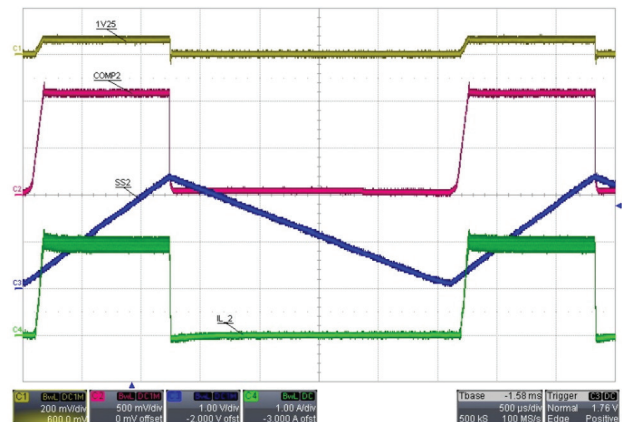

Figure 9: Synchronous Buck Hiccup Mode Operation when 1V25 is Shorted to GND and $C_{SS2} = 10 \text{ nF}$
5. Hiccup short-circuit protection; lab measurement shown in Figure 9 and detailed timing diagram shown in Figure 23